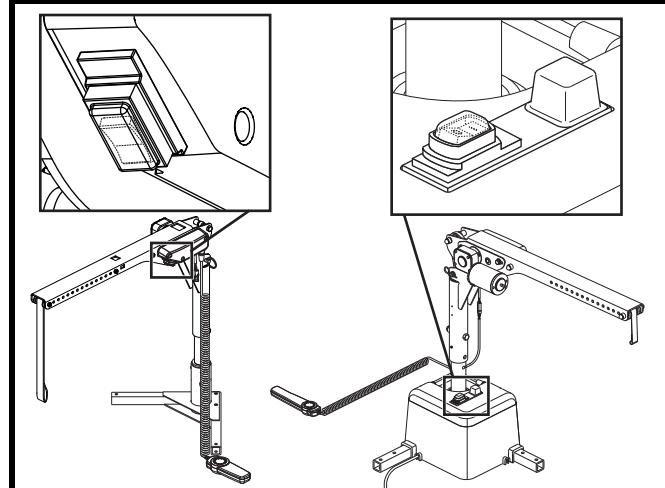

Figure 7. Circuit Breaker Reset Button
Your Pride Boom 250 is equipped with a power switch that enables/disables operation. Press UP to turn the power on; press DOWN to turn the power off. See figure 7.
NOTE: The ON/OFF switch also functions as the circuit breaker reset button. See figure 7.
- Check the circuit breaker reset button. Reset if necessary. **See figure 7.**
If your Pride Boom 250 is heavily strained because of excessive loads, the main circuit breaker (**see figure 7**) may trip to protect the motor and electronics from damage. When the breaker trips, the entire electrical system shuts down.
2. Push in the reset button to reset the breaker. **See figure 7.**